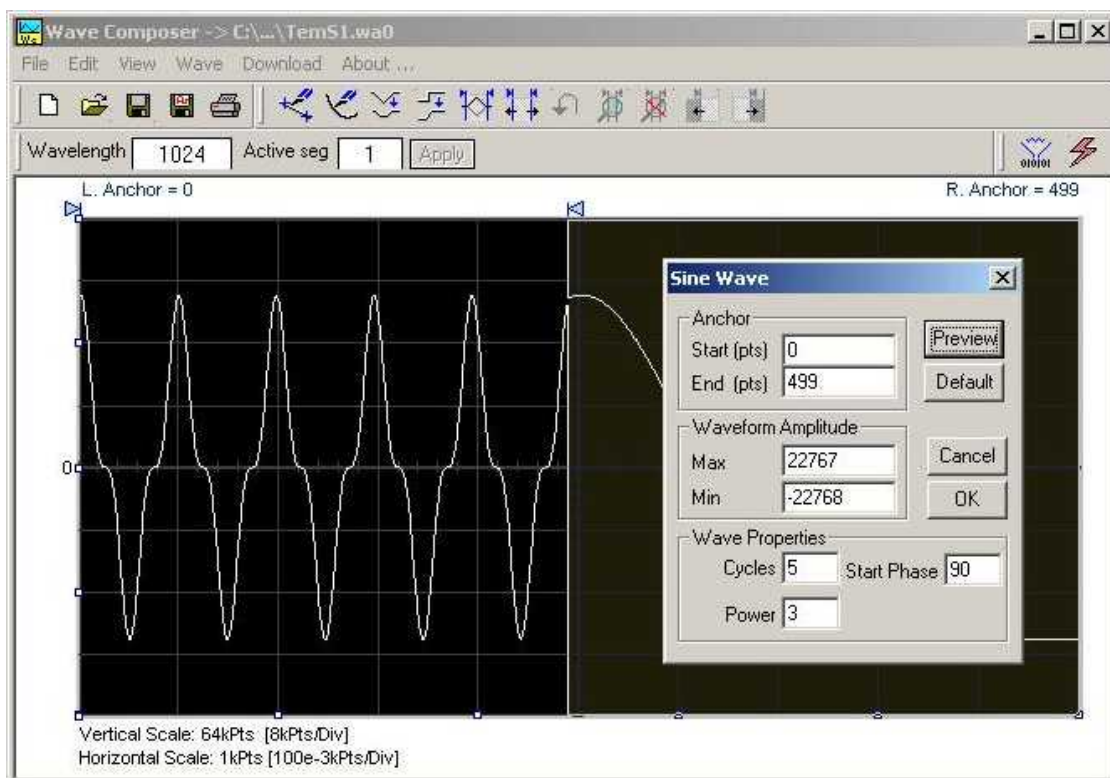

Figure 3-29, Generating Distorted Sine waves from the built-in Library
You can create any waveform from the built-in library using the Wave command. Clicking on one of the Wave options will open a dialog box. An example of the Sine waveform dialog box is shown in Figure 3-29. This dialog box is representative of the rest of the waveforms, so other waveforms will not be described.
Use the following procedure to create sine waveforms from the built-in library. Click on Wave, then sine... the dialog box as shown in Figure 3-29 will appear. You can now start programming parameters that are available in this box.
- 2) You can also place your anchors in a more precise manner from the waveform library by programming the start and end points for the waveform. An example of anchor placement using the sine dialog box is shown in Figure 3-29.